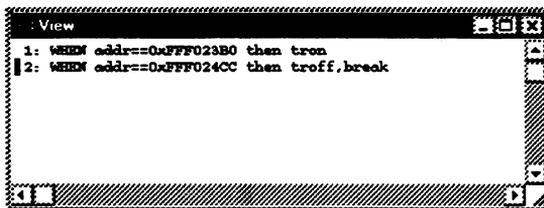

Figure 10-12 Event system “turn trace on” and “turn trace off” event statements
4. In the View window, examine both event system statements. See **Figure 10-12**.